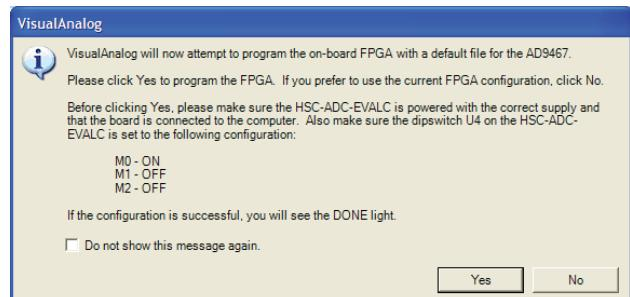

Figure 4. VisualAnalog, New Canvas Message Box
2. After the template is selected, a message box opens, asking if the default configuration can be used to program the FPGA (see Figure 4). Click **Yes**, and the window closes. If a different program is desired, follow Step 3.